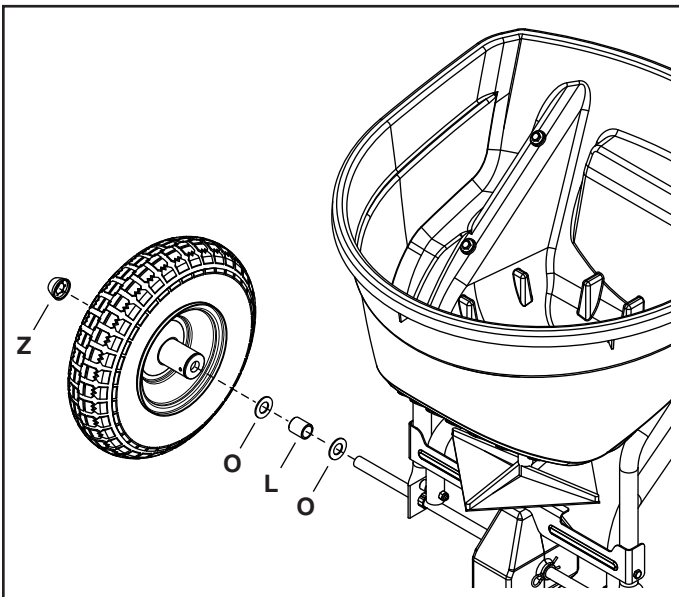

FIGURE 14
STEP 15: (SEE FIGURE 14)
- Slide a 5/8" washer (O), a spacer (L), a 5/8" washer (O) and a wheel onto the end of the axle with no hole.
- Carefully hammer a hub cap (Z) onto the axle.